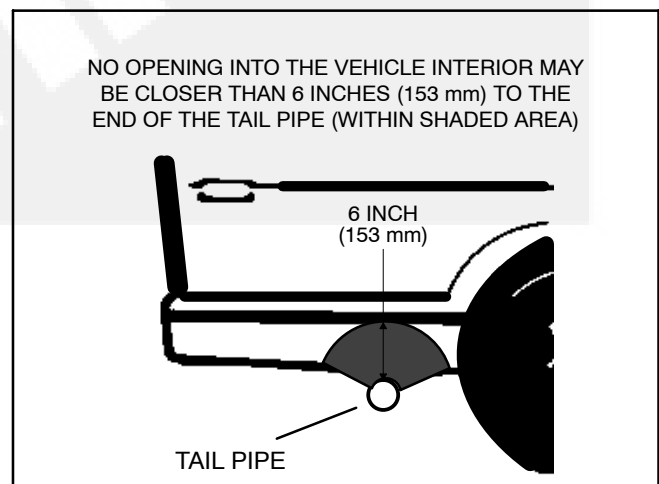

FIGURE 7-10. MINIMUM DISTANCES TO OPENINGS
9. Do not terminate the tail pipe such that it is closer than 6 inches (153 mm) to any opening, such as a door, window, vent or unsealed compartment, into the vehicle interior (Figure 7-10).